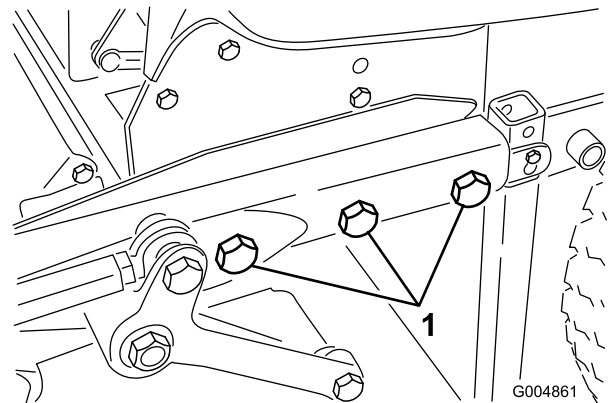

Figure 104
14. Carefully remove the bolts (3/4 inch), washers and nuts that secure the deck frame to the rear frame (3 on the left side and 2 on the right side) (Figure 104). Retain 4 of the bolts for re-installation and store the remaining for summer change over.